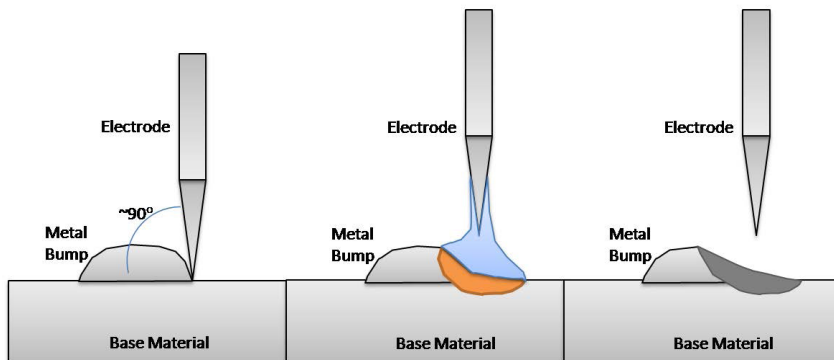

Figure 26.1. Place the electrode in different spots to move the metal around.
**Hands On:** Use your electrode with several different materials to push metal around, or to use surface tension to smooth a metal mound out. See Figure 26.1.